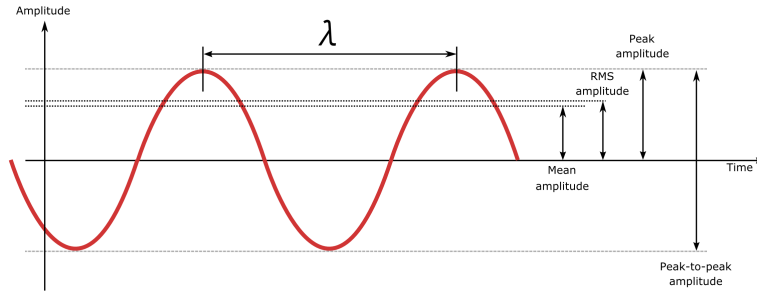

Figure 1: Definitions of various wave parameters
- The AMP parameter sets the peak-to-peak amplitude, not the peak amplitude. See Figure 1.
The notes below correspond to the button groups labeled in Figure 1. They are generally in the order that you would use them to set up a waveform output.